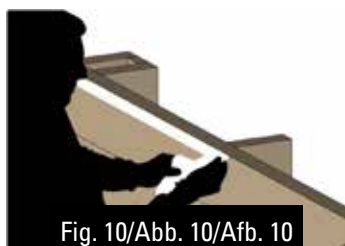

Fig. 10/Abb. 10/Afb. 10
- Stick the two-faced adhesive tape panel by panel, aligning it with the upper part of the top boards (figure 10).